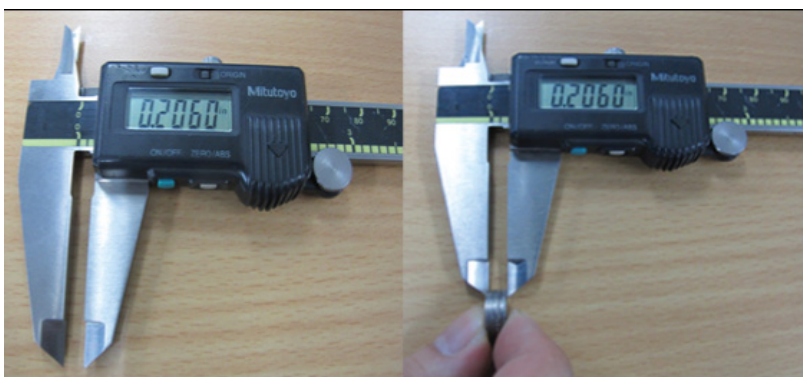

Figure 4-45: Setting up caliper to reflect dimension C
13. Set up value **C** on the caliper. Using shims, fill up the space between the caliper legs with the appropriate amount of shims to fill the gap. Refer to Figure 4-45.